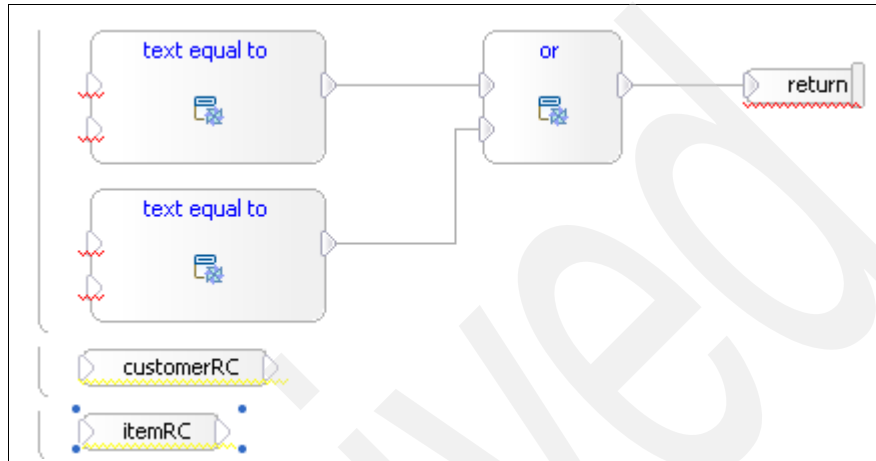

Figure 3-29 Case element design
7. Drag **customerRC** and **itemRC** onto the canvas from the list of variables at the far right of the canvas. See Figure 3-29.